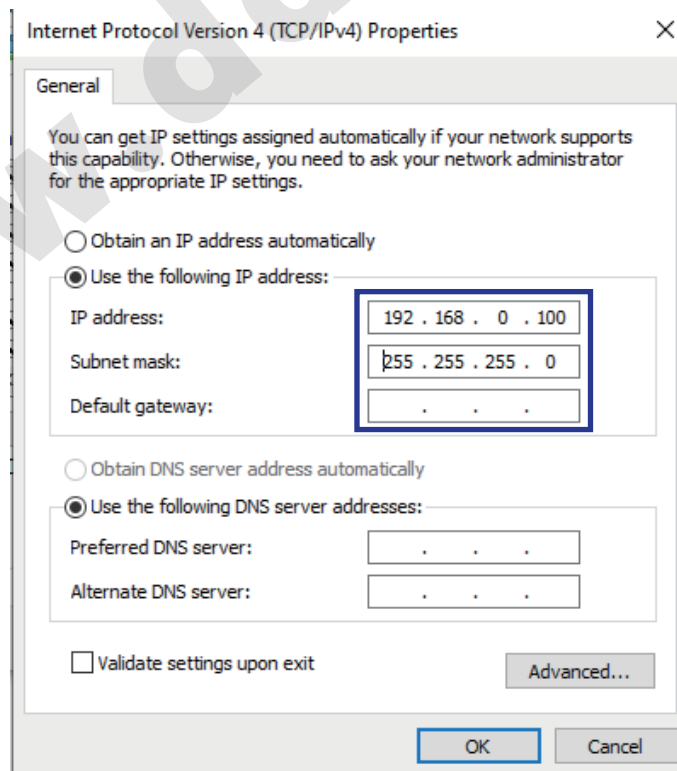

Figure 4 Set the IP address
Step 4: Set the IP address and Subnet mask as Figure 4: